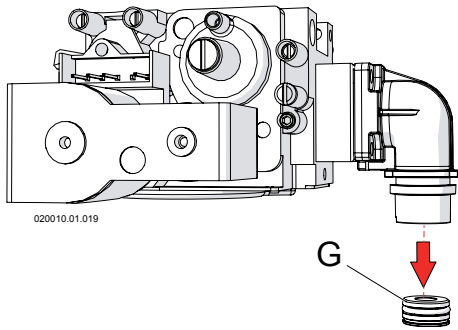

Figure 13-5 Gas orifice
- 7 - Replace orifice “G” of Figure 13-5, for the correct one for type of gas used. Verify that the stamping on the orifice matches the Figure 13-7;